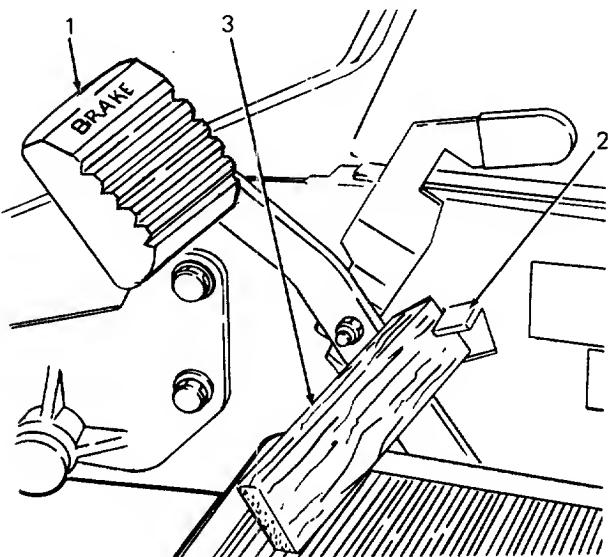

Figure 26
1. To check brake adjustment, place a 1 inch thick wood block between the single brake pedal and the brake lock tab (see Figure 26).
2. Place a 1 inch thick wood block between the single brake pedal and the brake lock tab (see Figure 26).